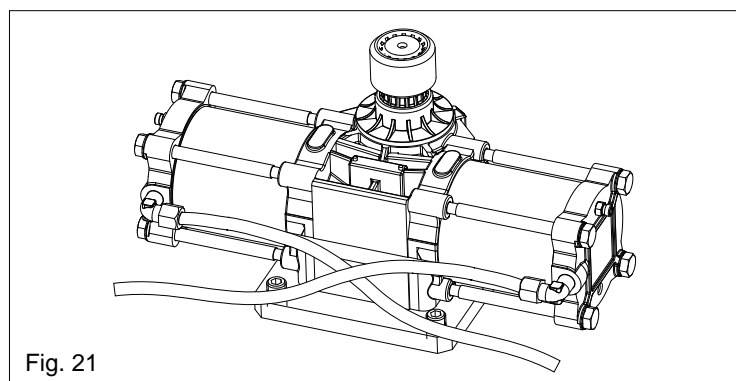
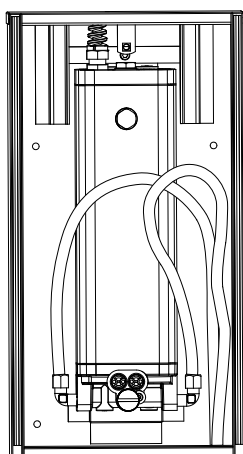
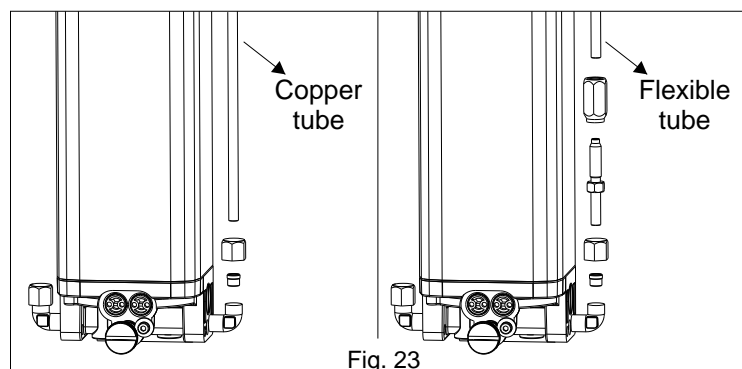

Fig. 21
Fig. 22
Fig. 23
5.1. Connect the hydraulic tubes with the hydraulic unit and the jack (Fig.21, Fig.22, Fig.23).
12.1. Connect the hydraulic tubes with the hydraulic unit and the jack (Fig.21, Fig.22, Fig.23).